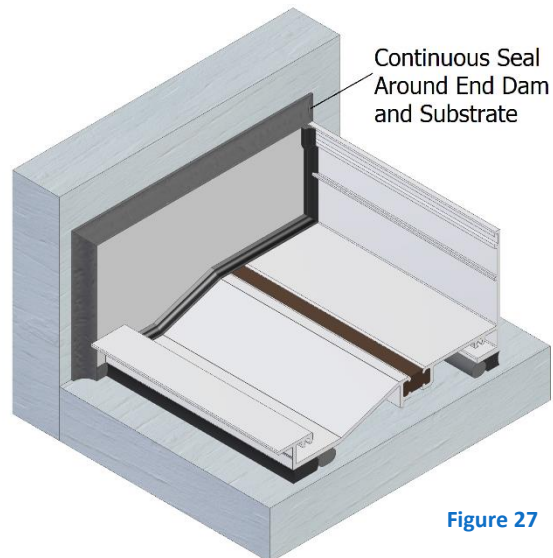

Figure 27
- ## H. Form continuous bead of sealant around end dam between end dam and wall. Start at seal between exterior subsill and floor then extend up and around end dam and continue to seal between subsill and floor on interior. Tool as required to guarantee watertight seal (Figure 27).